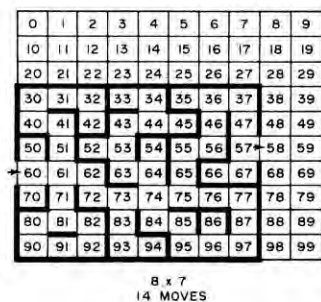
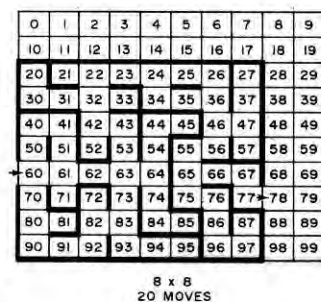

Fig. 3.
Fig. 4.
The program statements 930-980 in Listing 1 construct the 8 x 7 maze of Fig. 3 with the entrance at location 60 and the exit at location 57. Other mazes shown in Figs. 4 through 8 are constructed by statements 990-1270. Note that all mazes must be entered from the left and exited on the right side because the initial direction (D) is equal to 2 in line 200.
In each of the last four digits, a one represents a wall and a zero represents a hall (no wall). The second, third, fourth and fifth digits correspond to the north, east, south and west sides. For example, the shape of block 60 in Fig. 3 is designated by 10000, and block 65 is designated by 10101.
struct. Lines 990-1040 and 1050-1100 in Table 1 correspond to the mazes of Figs. 4 and 5. After you have created a number of mazes, video prompts let you choose one of six to replay and run.